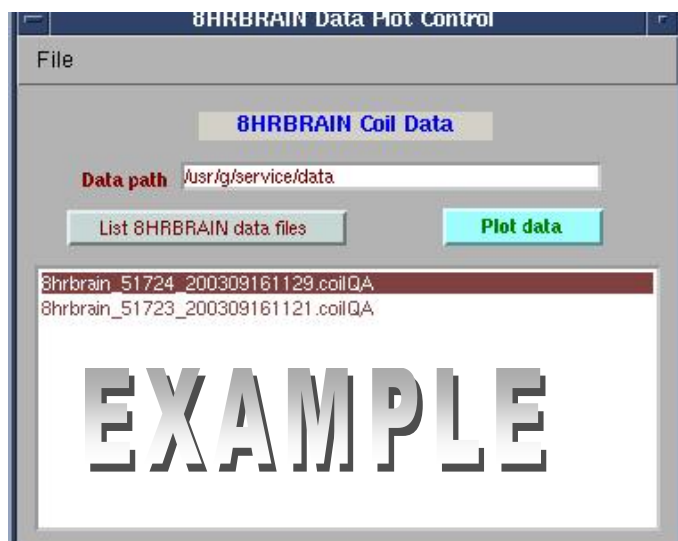

Figure 11: Data Plot Control window.
Step 6 – The Data Plot Control window opens (see *Figure 11*).